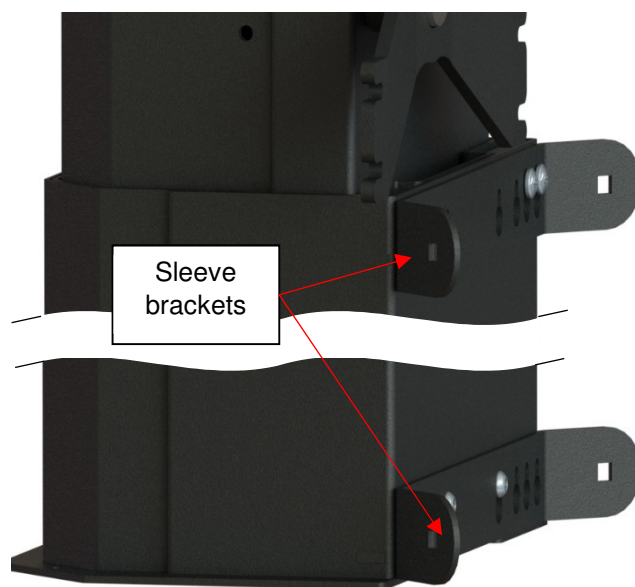

Figure 60
- 3) Slide both the top and bottom sleeve brackets in between the appropriate screws and the sleeve. Ensure the sleeve brackets are well centred with the post. (Figure 60)
- 4) Tighten all six screws. (Figure 60)